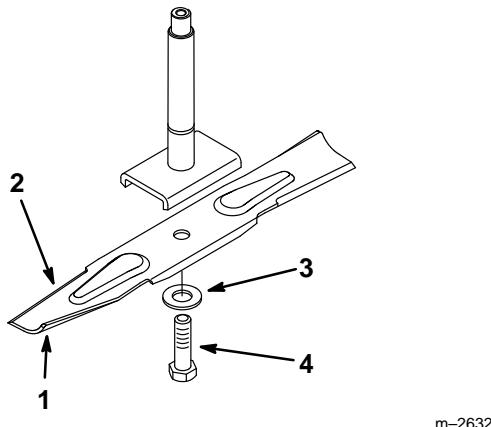
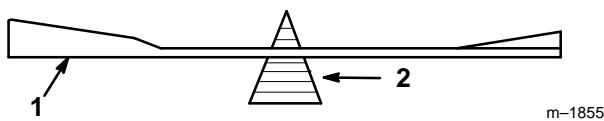

Figure 15
Figure 17
Hold the blade end using a rag or thickly-padded glove. Remove the blade bolt, lock washer and blade from the spindle shaft (Fig. 15).
2. Check the balance of the blade by putting it on a blade balancer (Fig. 17). If the blade stays in a horizontal position, the blade is balanced and can be used. If the blade is not balanced, file some metal off the end of the sail area only (Fig. 15). Repeat this procedure until the blade is balanced.
1. Install the blade onto the spindle shaft (Fig. 15).
2. Install the lock washer and blade bolt (Fig. 15). Torque the blade bolt to 85–110 ft-lb (115–140 N•m).